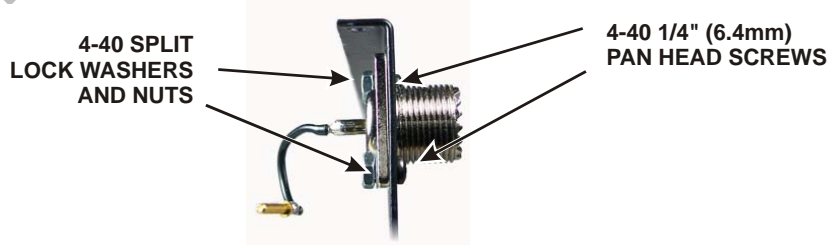

Figure 21. Mounting the ANT1 Connector.
□ Mount the SO239 connector in the ANT1 position on the rear panel using two 4-40 1/4" (6.4 mm) black pan head screws, two 4-40 split lock washers and two 4-40 nuts as shown in Figure 21.